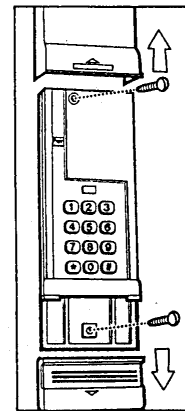

Fig. 2
- Step 1-2** Slide Keypad Cover up and pull off Wireless Keypad. Slide off battery cover and remove battery. **Fig. 2**